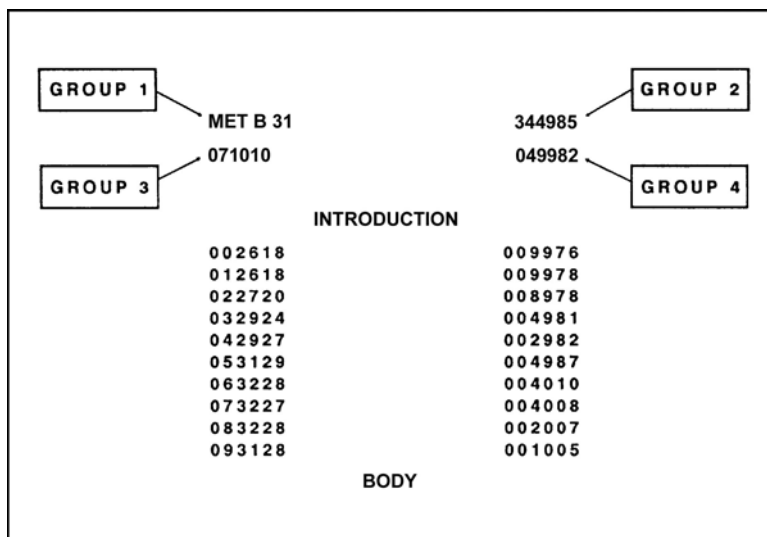

Figure 1. Ballistic MET Message Introduction
- d. The ballistic MET message (Figure 1) has two parts: the introduction, which identifies and describes the MET station; and the body, which contains MET data. MET messages can normally be obtained from the division artillery MET station every four hours. Since MET information is normally broadcast on AM radios, it comes to the FDC through battalion headquarters.
- b. Introduction. The first 4 six-character groups of the MET message identify the type of message and the station transmitting the message. The recording of the introduction on DA Form 3675-R (Figure 2) is discussed below. For a more detailed description of the meaning of each of the characters that compose the introduction, see the introduction section of the firing tables. The meaning of the characters in the introduction recorded in Figure 1 follows: